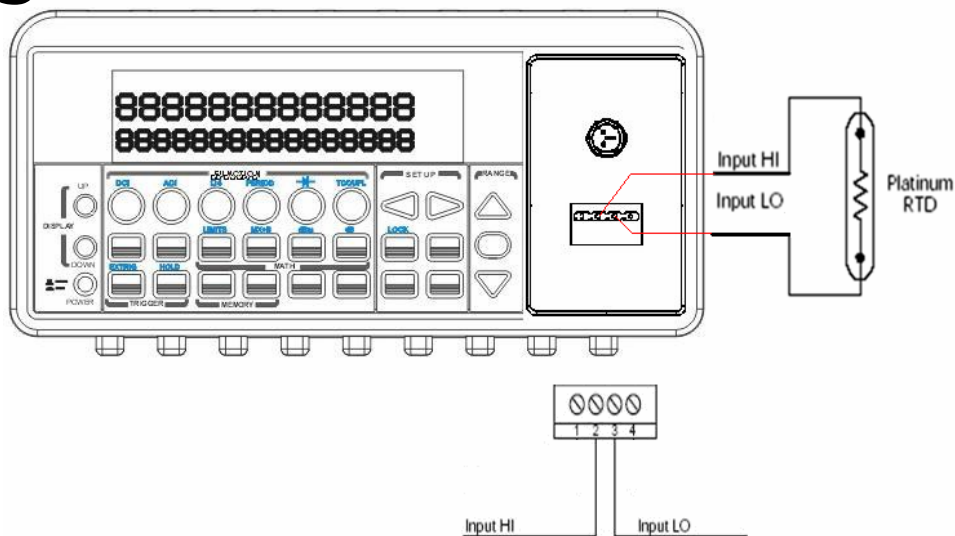

Figure 3-14
- ① Use terminals switch to select front terminals.
- ② Insert a specified adapter into the front terminals. Connect the low thermal patch leads to the adapter as shown in **Figure 3-14**.
- ③ Configure sensor type and unit using CONFIG + TEMP and ◀ or ▶. When ready, press ENTER button.
- ④ Press TEMP button.
- ⑤ Place RTD in the desired position and take the reading on the display.